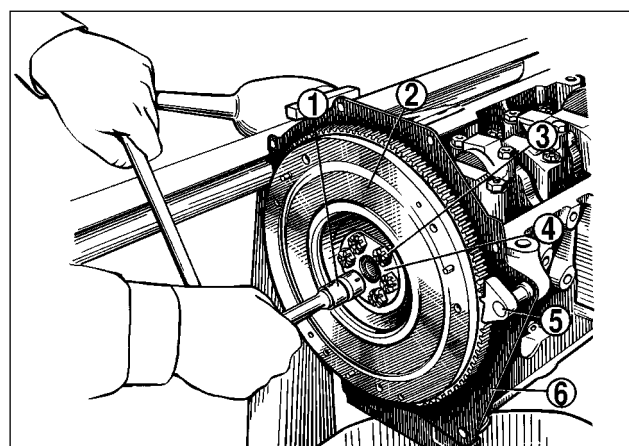
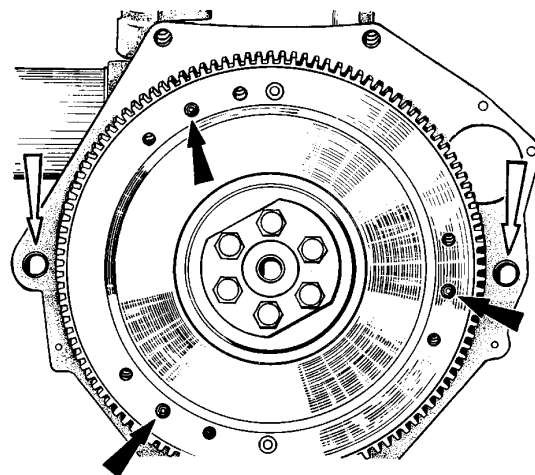

Fig.2-10. Removing the flywheel:
Fig.2-16. Clutch dowels (arrowed black) and clutch housing centering pins (arrowed white)
To remove the crankshaft pulley, secure the flywheel using A.60330/R (Fig. 2-10) and undo the nut using tool A.5012 (Fig. 2-5). Withdraw the valve cover and timing cover. Unbolt the
Fit tool 5 (Fig.2-10), undo bolts 3, remove washer 4 and the flywheel from the crankshaft. Remove the front clutch housing cover.
Locate front clutch housing cover 6 (Fig.2-10) over two centering pins (Fig. 2-16). Secure the cover to the rear oil seal housing with nuts.
- when the marks are aligned, hold the flywheel stationary with tool A.60330/R (Fig.2-10), then tighten the sprocket securing bolts and chain tensioner cap nut to the torques specified, bend the sprocket bolt lock washers; should the marks are not aligned, repeat the chain refitting procedure.